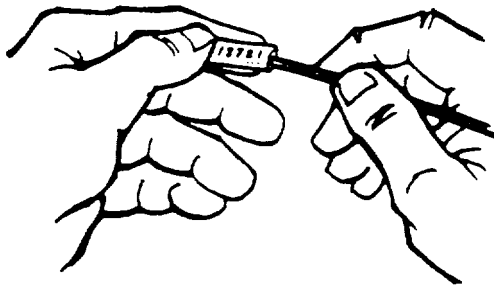

Figure 27. Inserting Wire into Marker
- b. Hold marker, printed side up, and press end of wire on lip of sleeve to open sleeve (Figure 27)